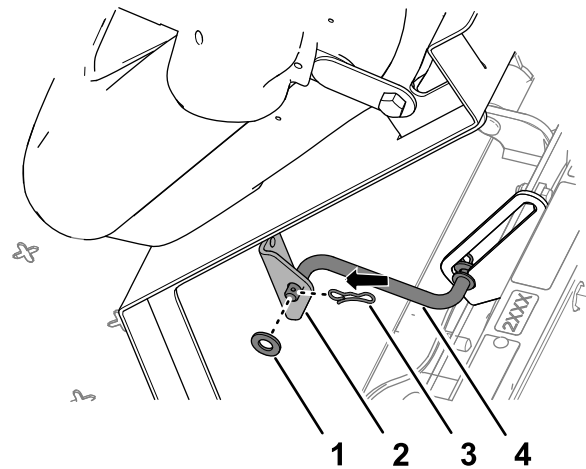

Figure 260
5. Assemble the prop rod to the bracket of the seat with the washer and hairpin (Figure 260).